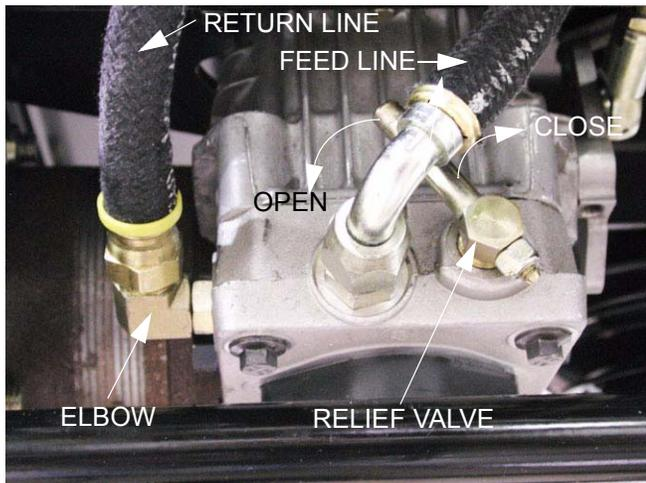

Figure 5.14
- 5.14. Open the relief valve on the hydro pump that is to be tested. This will relieve any residual hydraulic pressure. See Figure 5.14.
- 5.19. Disconnect the return line that runs from from the outboard side of the hydro pump to the reservoir using a 7/8" wrench on the nut, and an 11/16" wrench to hold the fitting on the hydro pump. Plug the line, cap the fitting on the pump. See Figure 5.14.